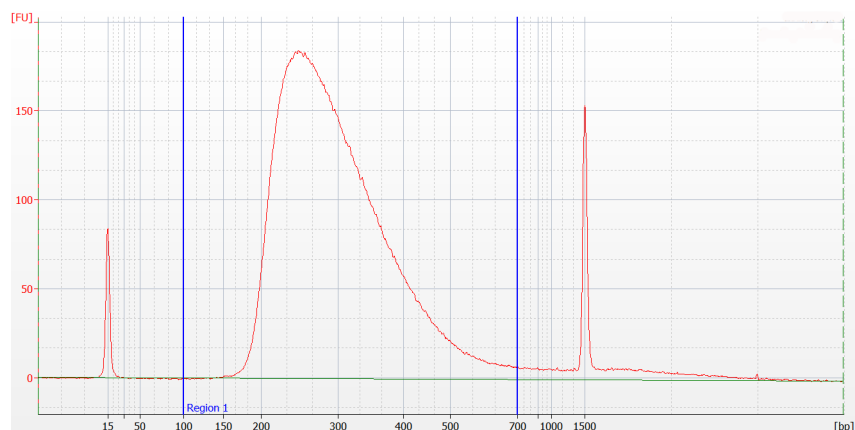

Figure 15 Analysis of amplified library DNA using a DNA 1000 assay.
- 6 Verify that the electropherogram shows the peak of DNA fragment size positioned between 225 to 275 bp. A sample electropherogram is shown in Figure 15.